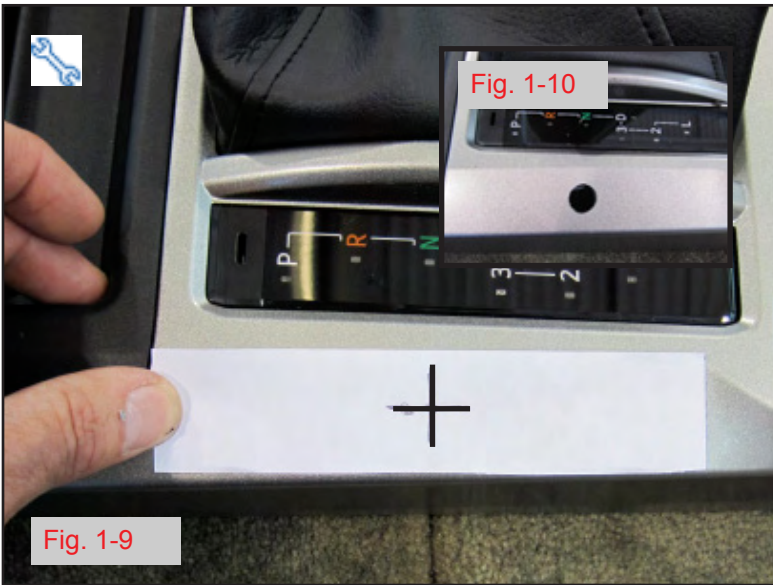

Fig. 1-9
2. Align template as shown. (Fig 1-9)
4. Align template as shown use a punch/ scribe to mark the center of the hole to be drilled. (Fig. 1-9)
1. Use a punch or scribe to mark center of the hole to be drilled. (Fig. 1-9)